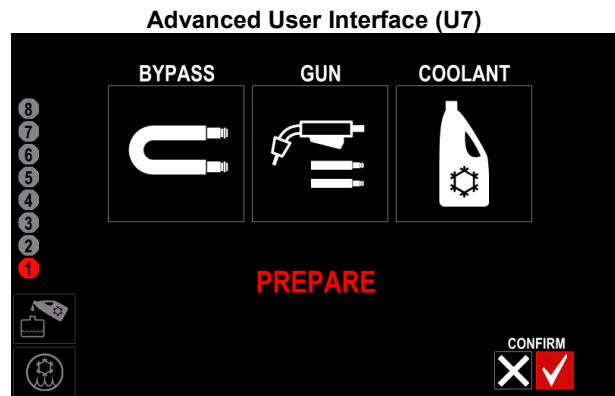
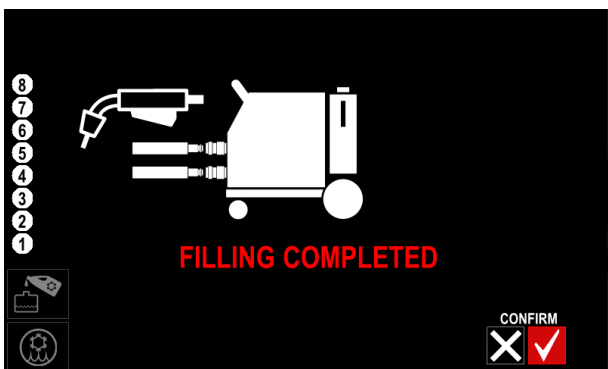

Figure 14
Figure 21
- When the **COOL ARC® 60** was connected for a first time welding source will automatically starts the filling procedure (Figure 14 or 22). Remove the reservoir cap to prevent generating a partial vacuum.
- If the filling process is successful (Figure 21 or 29), the cooler switches to AUTO mode.
First follow as shown Figure 30 or 31 and then repeat steps shown on Figure 14 or 22 to Figure 21 or 29.